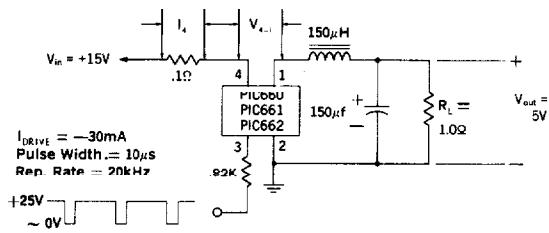

Figure 1. PIC660, 661, 662 Switching Speed Circuit
- The efficiency is a measure of internal power losses and is equal to Output Power divided by Input Power. The switching speed circuit of Figure 1, in which the efficiency is measured, is representative of typical operating conditions for the PIC600 series switching regulators.